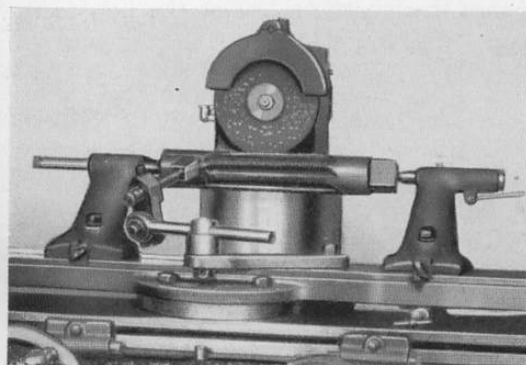

Fig. 31
**Grinding a Tap.** The set-up for grinding a tap (Fig. 31) and grinding a radial tooth form milling cutter are essentially the same, since they are both straight tooth form relieved cutters. The various steps in making the set-up are as follows: